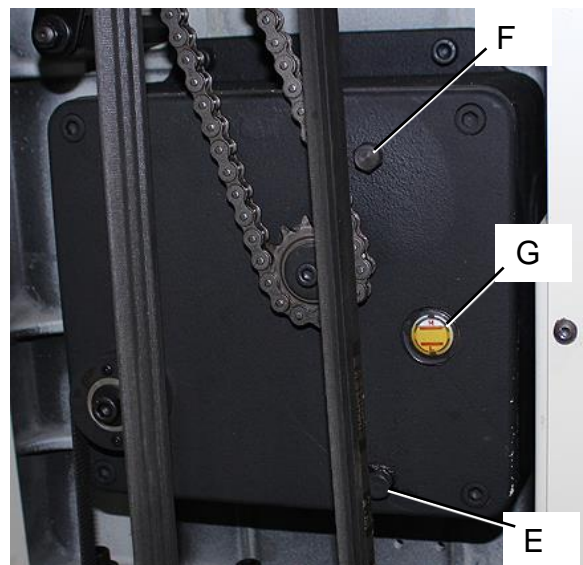

Figure 27
- The gear box oil should be changed once a year. Remove the drain plug (E, Fig 27) to drain the oil. Refill the gear box with 60-90 weight gear oil through the fill hole (F, Fig 27) until the sight glass (G, Fig 27) reads full. The sight glass (G, Fig 27) should be checked periodically and oil added as necessary.